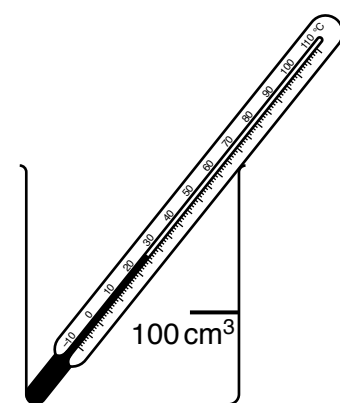

Fig. 2.1
1. The beaker and thermometer should be supplied to candidates as shown in Fig. 2.1, without water in the beaker. If the beaker does not have graduations, an indelible mark must be made at the 100 cm³ level and labelled '100 cm³'.
Check that the apparatus is intact and arrange as shown in Fig. 2.1.